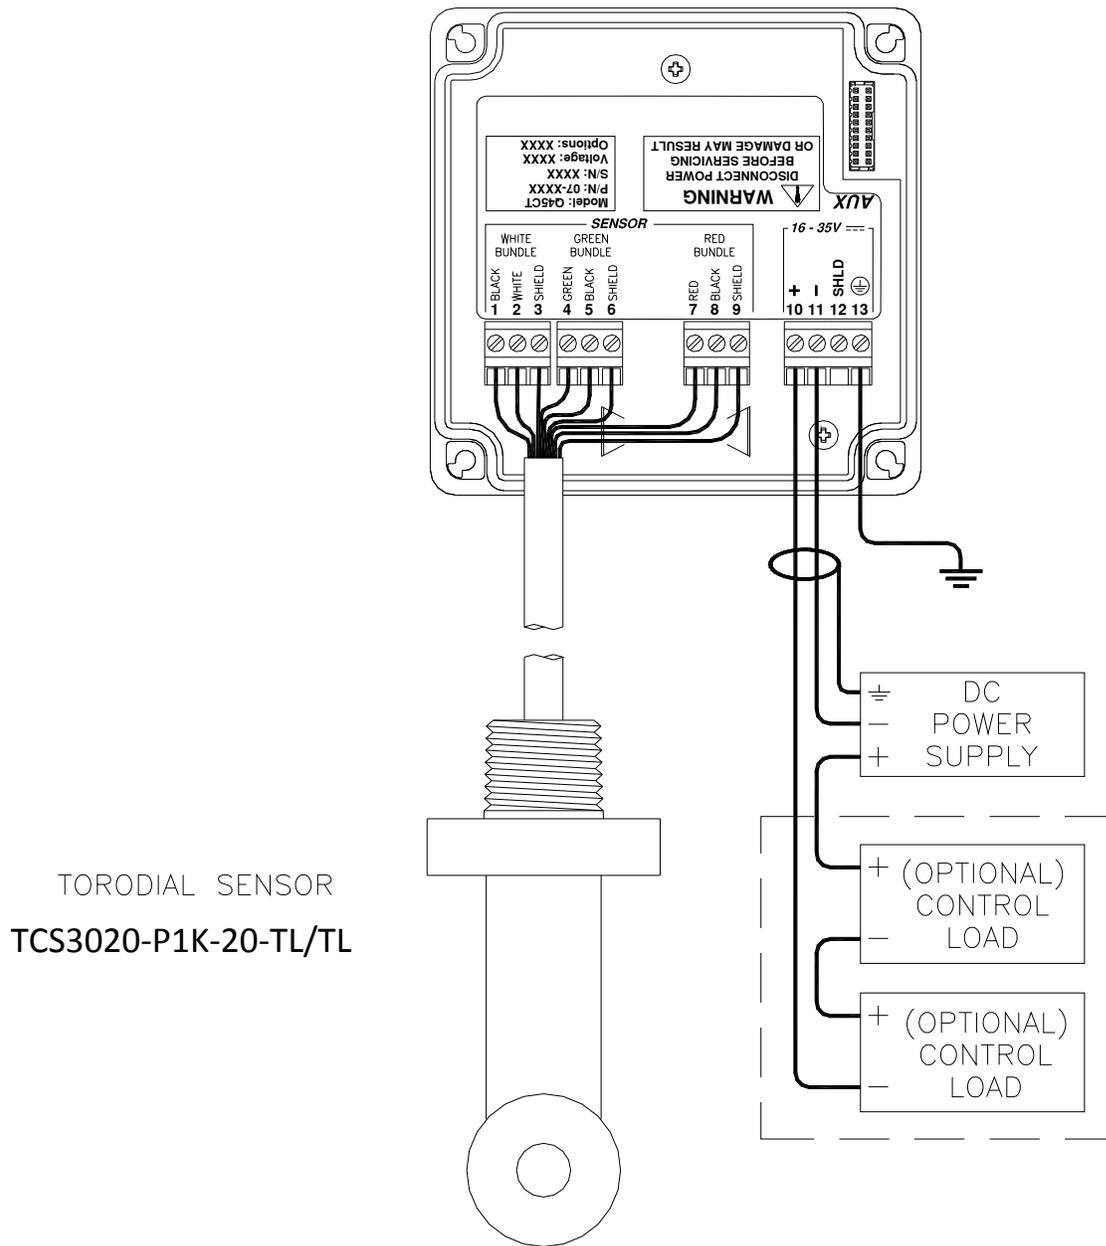

Figure 10 - Loop Power Connection, TCSTX Transmitter
1. Use wiring practices that conform to all national, state and local electrical codes. For proper safety as well as stable measuring performance, it is important that the earth ground connection be made to a solid ground point (Figure 10). The AC power supply contains a single 100mA (115V) or 50mA (230V) slo-blo fuse. The fuse **F1** is located adjacent to **TB5** and is easily replaceable.
In the two-wire configuration, a separate DC power supply must be used to power the instrument. The exact connection of this power supply is dependent on the control system into which the instrument will connect. See Figure 10 for further details. Any twisted pair shielded cable can be used for connection of the instrument to the power supply. Route signal cable away from AC power lines, adjustable frequency drives, motors, or other noisy electrical signal lines. Do not run sensor or signal cables in conduit that contains AC power lines or motor leads.
Sensor connections are made in accordance with FIGURE 10. The sensor cable can be routed into the enclosure through one of cord-grips supplied with the unit. Routing sensor wiring through conduit is only recommended if a junction box is to be used. Some loose cable is needed near the installation point so that the sensor can be inserted and removed easily from the flowcell.